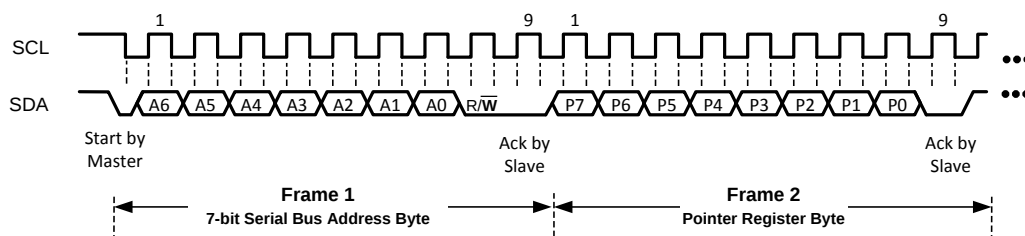

Figure 12. Trigger Humidity/Temperature Measurement
- Trigger the measurements by executing a pointer write transaction with the address pointer set to 0x00. Refer to Figure 12.
2. Trigger the measurement by executing a pointer write transaction. Refer to Figure 12.